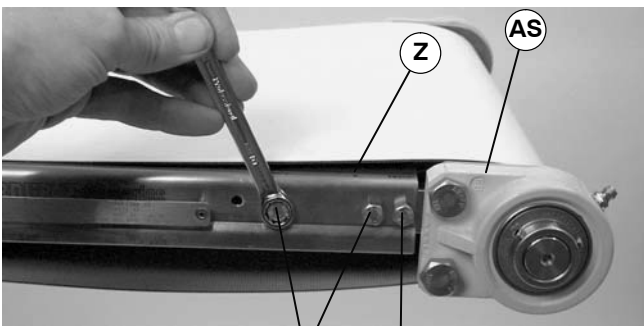
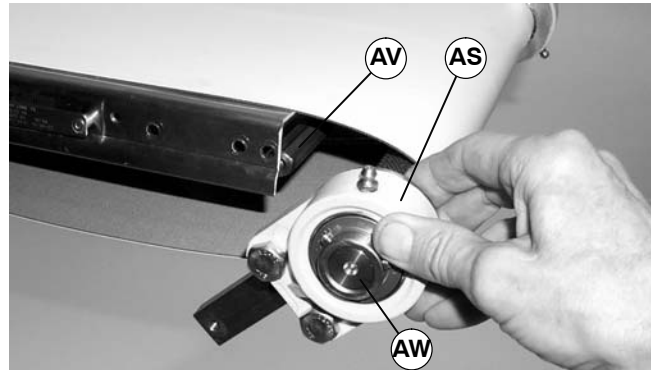
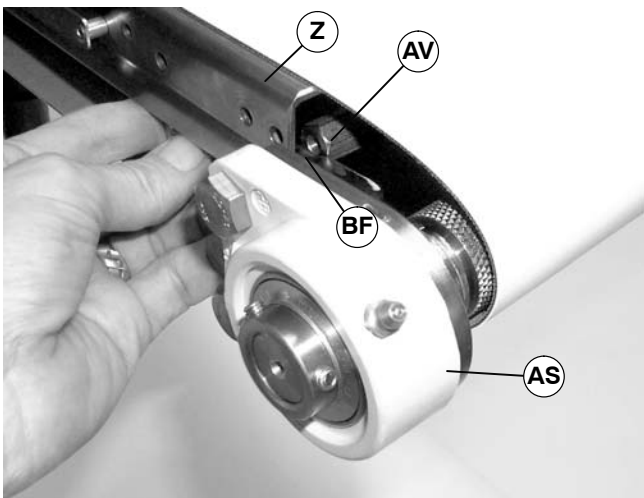

Figure 22
Figure 23
Figure 31
8. Remove three hex head screws (AT and AU of Figure 22) from bearing and head plate assembly (AS), cross support post (AV of Figure 23) and conveyor (Z).
9. Rotate bearing and head plate assembly (AS of Figure 23) down and then off of cross support post (AV) and drive spindle (AW).
- Rotate bearing and head plate assembly (AS of Figure 31) up between inside of conveyor (Z) and cross support post (AV). Make sure cross support post engages slot (BF) in head plate.
- Install three hex head screws (AT and AU of Figure 22) to secure bearing and head plate assembly (AS of Figure 31) to cross support post (AV) and conveyor (Z).